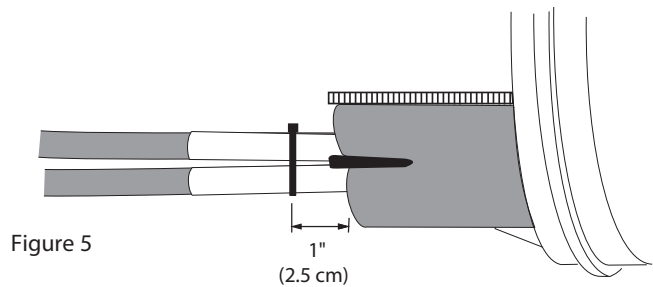

Figure 5
9. Install the branch-off clip as shown. The clip's base must touch the sleeve. (Figure 5)